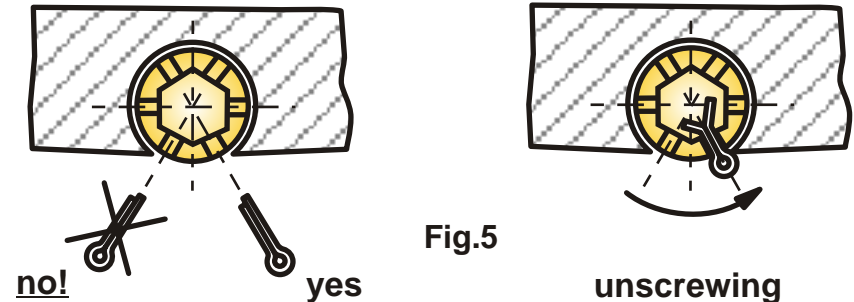

Fig.5
I) To make sure that the screws will not loosen insert a 1/16" stainless steel cotter pin into the head of each screw. Put them on so that if the screw were to loosen it would hit the cotter pin as shown in figure 5. Cut the cotter pins to a length of 1/4" and put them in. A tight tap with a hammer on the head of the pin will spread the ends open, if not use a screw driver to spread them apart.